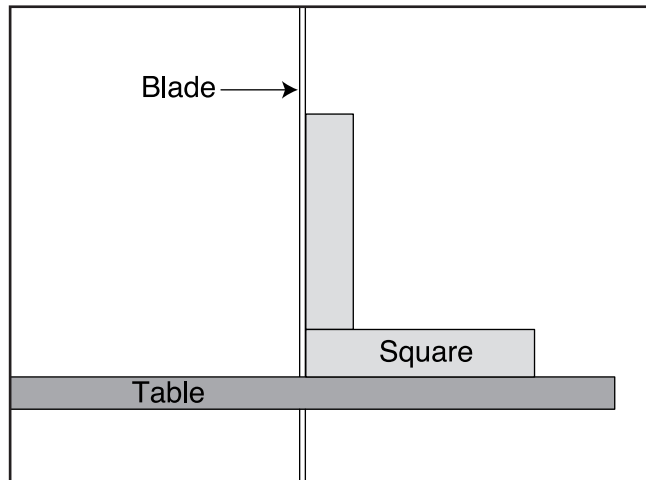

Figure 16. Squaring table to blade.
4. Raise the guide post and place a machinist's square on the table next to the side of the blade as illustrated in **Figure 16**. Adjust the table square with the blade using the table tilt handwheel, then secure with the table tilt lock lever.